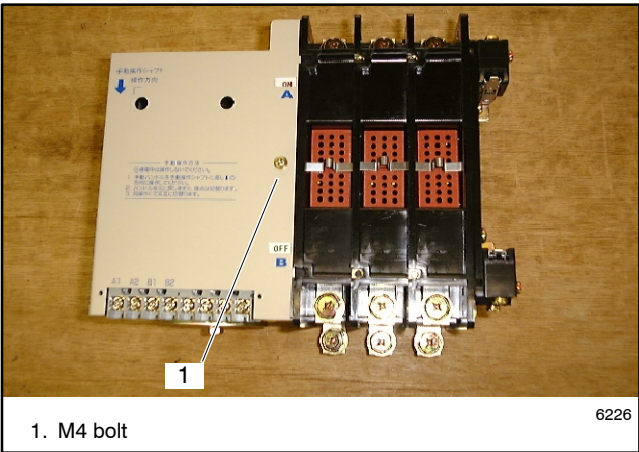

Figure 8-1 Removing Cover
- 2. Loosen the M4 bolt and remove the cover from the mechanical unit. See Figure 8-1.
2. Loosen the M4 bolt and remove the cover from the mechanical unit. See Figure 8-1.